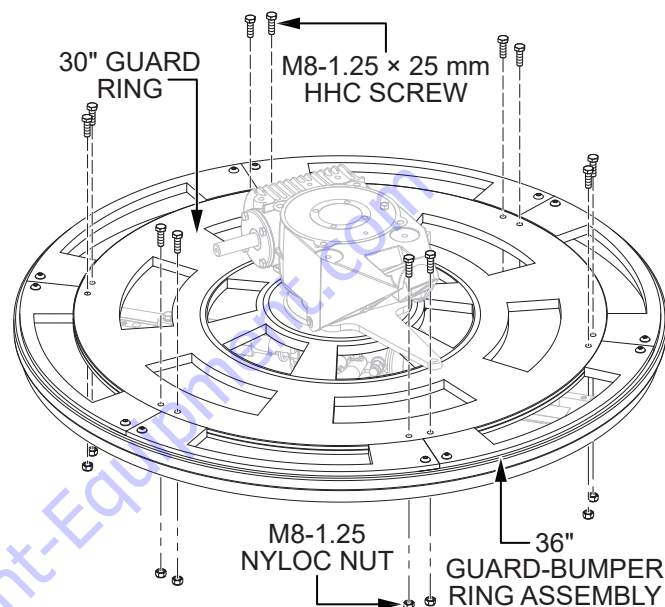

Figure 18. 36-Inch Guard-Bumper Ring Assembly Removal
2. Remove the twelve M8-1.25 × 25 mm HHC screws and M8-1.25 nyloc nuts securing the 36" guard-bumper ring assembly to the 30" guard ring (Figure 18). Retain all twelve nyloc nuts and six of the M8-1.25 × 25 mm screws for installation of the 30" guard-bumper ring assembly.